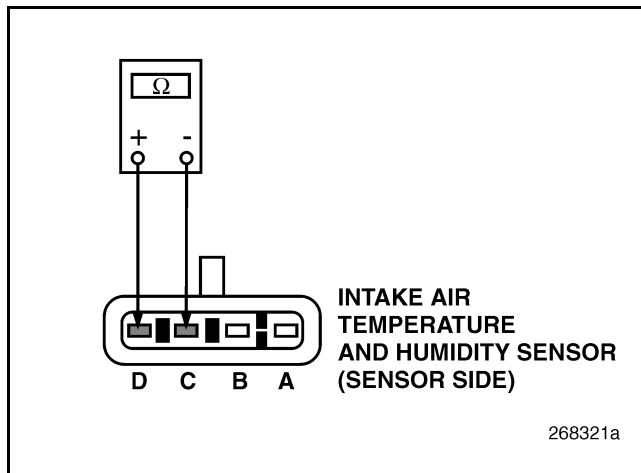

Figure 305
3. Measure the resistance between pins C and D of the IATH Sensor with the ambient air temperature between 32° and 104°F (0° and 40°C) (see Figure 305).